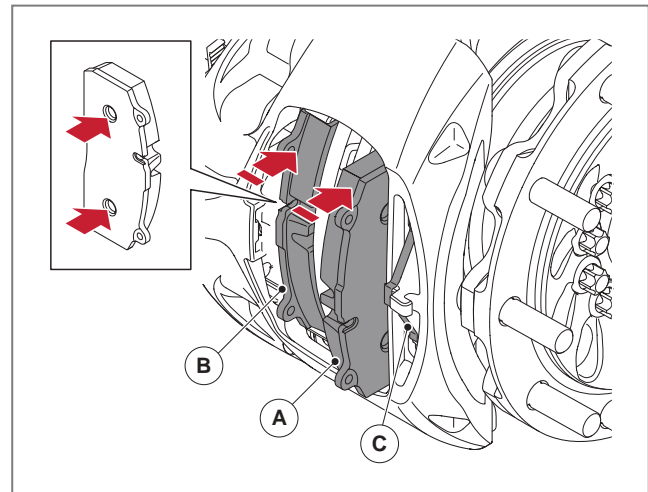

Fig. 40 - Installing the brake pads
- First install the inner brake pad (B) in the carrier. Note that the inner brake pad locates onto the thrust plate at two points, see ► Fig. 40. Then fit the outer brake pad (A).
- Install a new spring bracket (C) on the brake calliper and ensure that it is seated correctly.